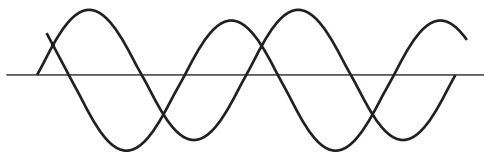

FIGURE 38-2 Superimposed waveforms
2. Connect the outputs of the network to the dual-trace scope vertical inputs 1 and 2, as appropriate. Adjust the scope H frequency, variable controls, and centering controls to achieve superimposed waveforms, centered on the face of the scope, similar to that shown in Figure 38-2.